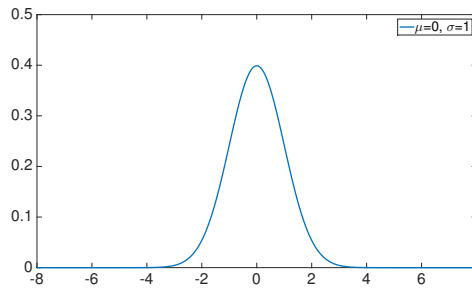

Figure 1: Normal distribution with $\mu = 0$ and $\sigma = 1$.
- For example if $\mu = 0$ and $\sigma = 1$ as in Figure 1 it will be more likely to generate a random number close to 0 than far from 0.